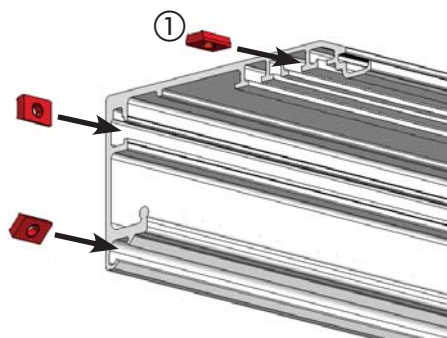

fig. 36
To install the side panels and the central bracket (for profiles of over 3 meters) (fig.36), place 8 plates on the profile of the support profile. Fit 4 of them on one side of the support profile and 4 on the other.
If you do not wish to install the side panels, install 3 brackets to secure the housings - two at the sides and one in the centre (for profiles of over 3 meters), and instead of the 3 side plates, fitting only one as shown in Fig. 36 ref. ①.